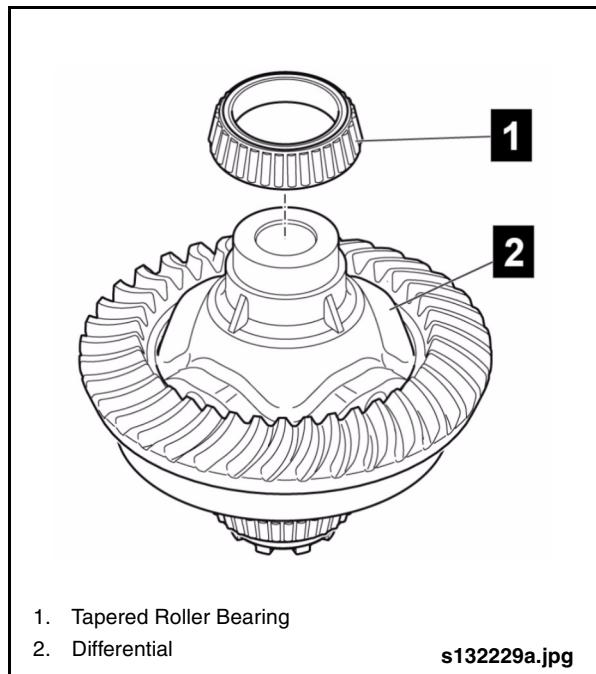

Fig. 2-69: Installing Tapered Roller Bearing on Differential Side
8. Use protective gloves and install tapered roller bearing onto differential bearing journal, ensuring bearing is fully seated. See "Fig. 2-69: Installing Tapered Roller Bearing on Differential Side" on page 57.